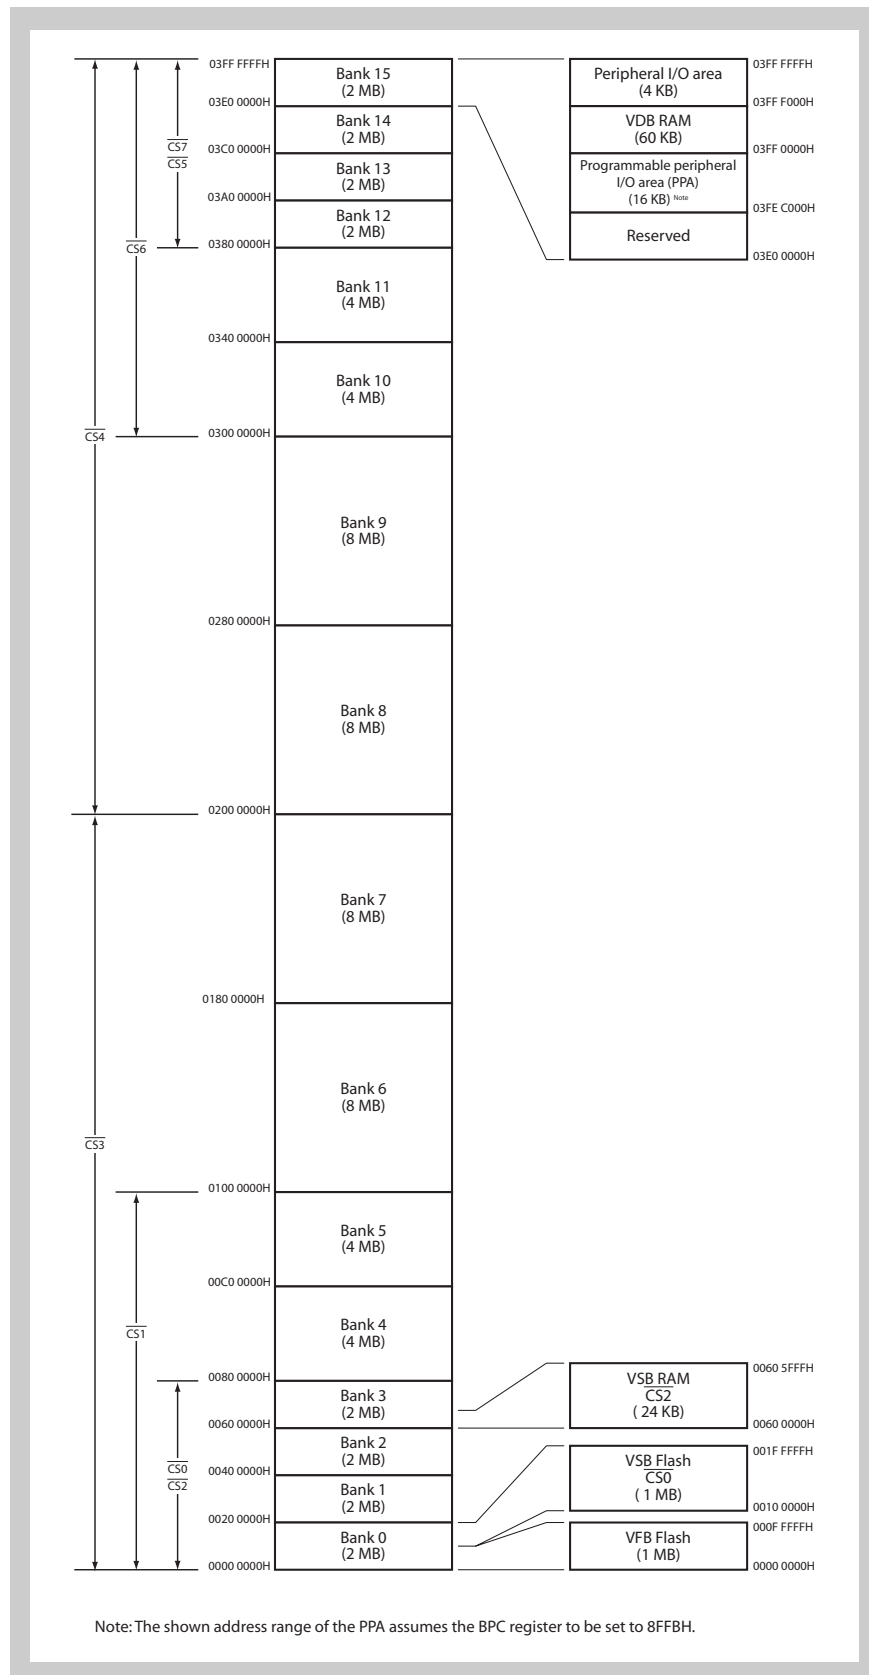

Figure 7-2 Memory banks and chip select signals for μPD70F3426
**μPD70F3426** Figure 7-2 shows the memory map of the μPD70F3426.
For access to the VSB Flash and VSB RAM the concerned BCU registers have to be set up as shown in Figure 7-2